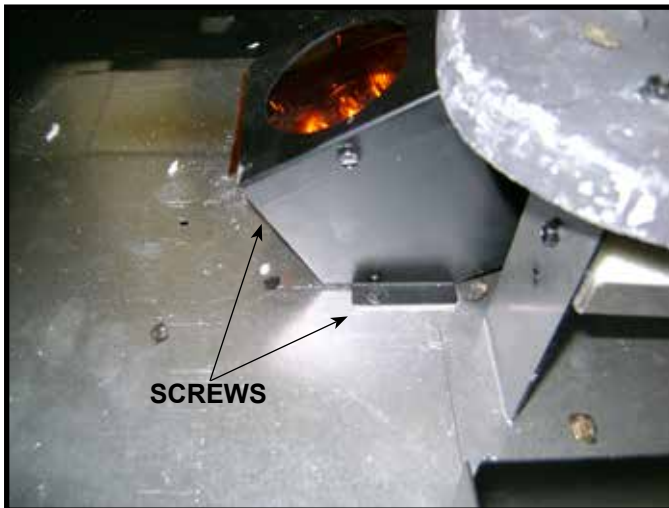
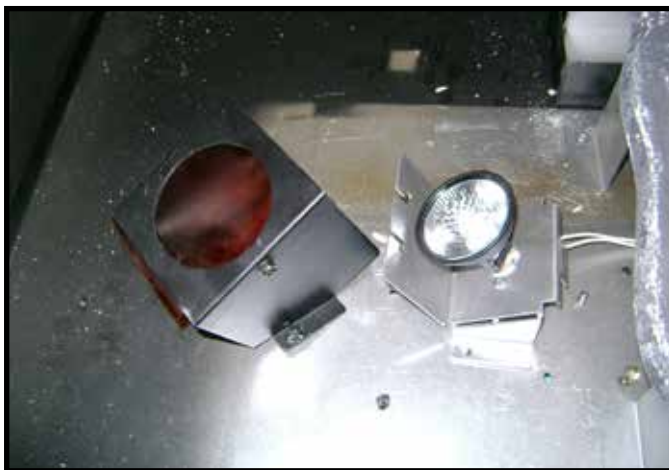

Figure 11.11 Light Housing Removal
Figure 11.12 Light Housing Removed, Bulb Installed
2. Install the two accent lights by removing (2) screws that hold the light housing to the firebox bottom. Install bulb by inserting the 2 pins on the bulb base into the 2 holes in the socket. See Figure 11.11 and Figure 11.12.